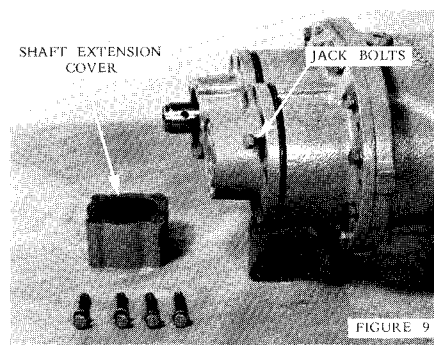

FIGURE 9
9. Install the bearing retainer with three (3) Nylok screws on the secondary rotor. Install the lock washer and nut on the main rotor and pull up tight. Bend ear of lock washer into slot of nut. Tightening retainers pulls the rotor shaft through the bearing until the inner race jams shims against the shaft shoulder; this provides a fixed bearing to hold rotor end clearance. Place the cover plate gasket with notches matching oil passage, on the end plate. Tap the end of rotor to be sure the bearing outer race is against the shoulder in the bore. Place the outer race shim in the bearing bore against the outer race. With a depth micrometer check the height of the shim in relation to the gasket surface, Figure 9. Peel the shim until it is .002" below the surface of the gasket. Always use a new gasket that has never been crushed. If the shim is more than the correct .002" below the face of gasket, bearing will move in the bore, and the end of the rotor may strike the end plate.